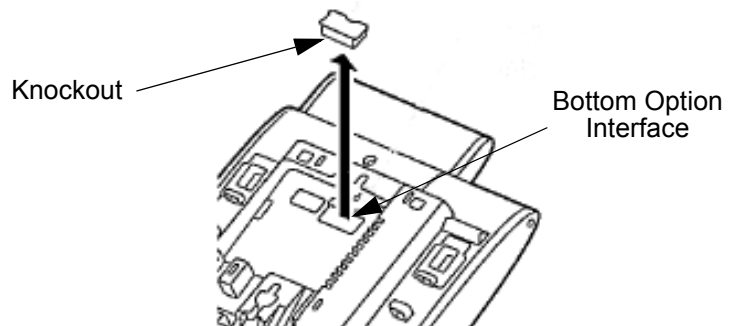

Figure 6-25 Bottom Option Interface Knockout
6. Carefully pry loose the knockout covering the bottom option interface (refer to Figure 6-25 Bottom Option Interface Knockout).